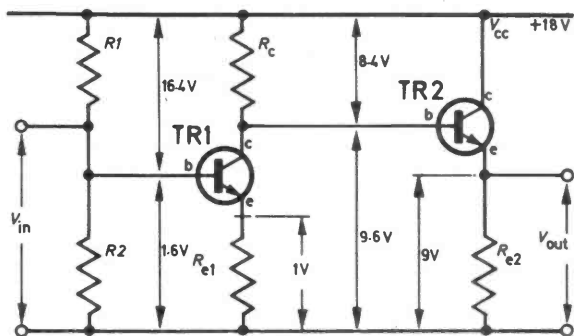

Fig. 9.2d. An example of a two-stage circuit using direct coupling between the stages.
Direct coupling is the most efficient, but demands that stage 2 is designed first and stage 1 is designed such that a direct connection provides the correct bias to stage 2. Shown in Fig. 9.2d is a circuit of a common emitter amplifier with high gain, d.c. coupled to a common collector buffer stage which although not contributing any further gain, delivers an output with very low  $R_{out}$ , i.e. it can deliver a larger current.
9.2. Study the circuit in Fig. 9.2d in which direction would the output voltage move if, (a)  $R_{o2}$  increased in value (b)  $R_o$  increased in value (c)  $R_1$  increased in value.